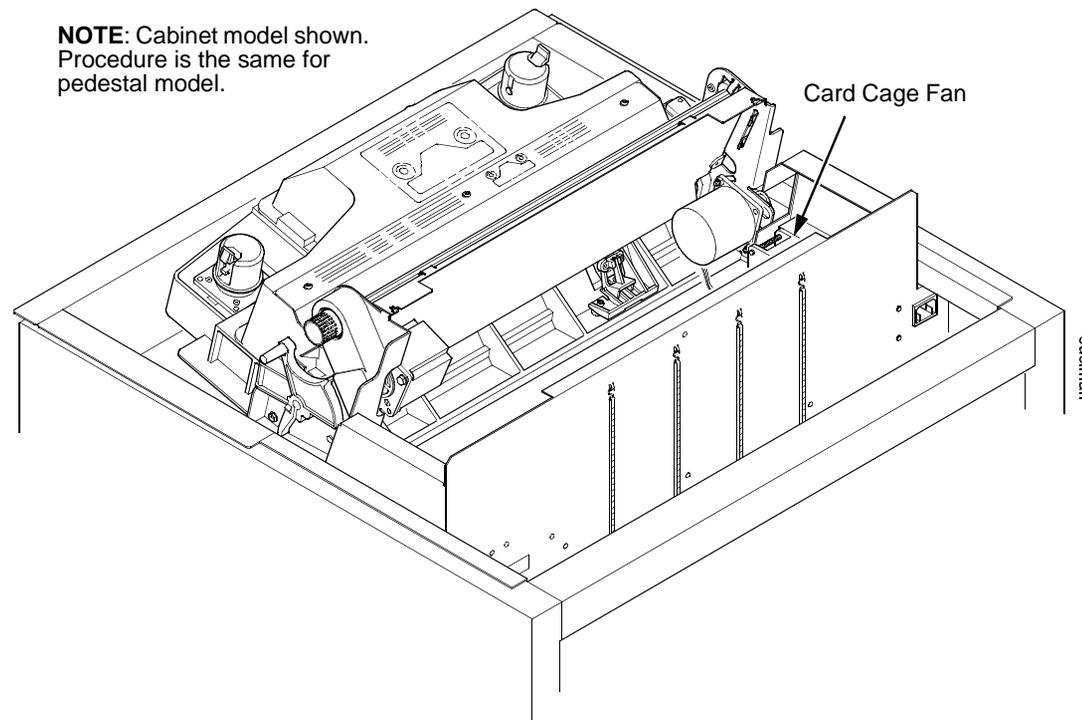

Figure 70. Cleaning the Card Cage Fan Assembly
3. Vacuum the card cage fan assembly and surrounding areas to remove paper particles, dust, and lint. (See Figure 70.)